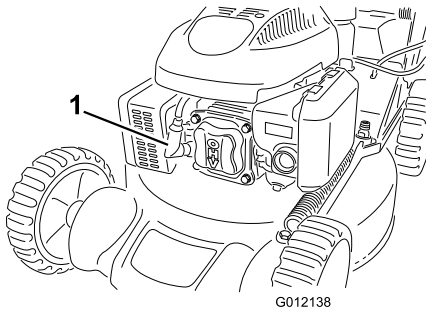

Figure 18
2. Disconnect the spark-plug wire from the spark plug (Figure 18) before performing any maintenance procedure.
2. Disconnect the wire from the spark plug (Figure 18).